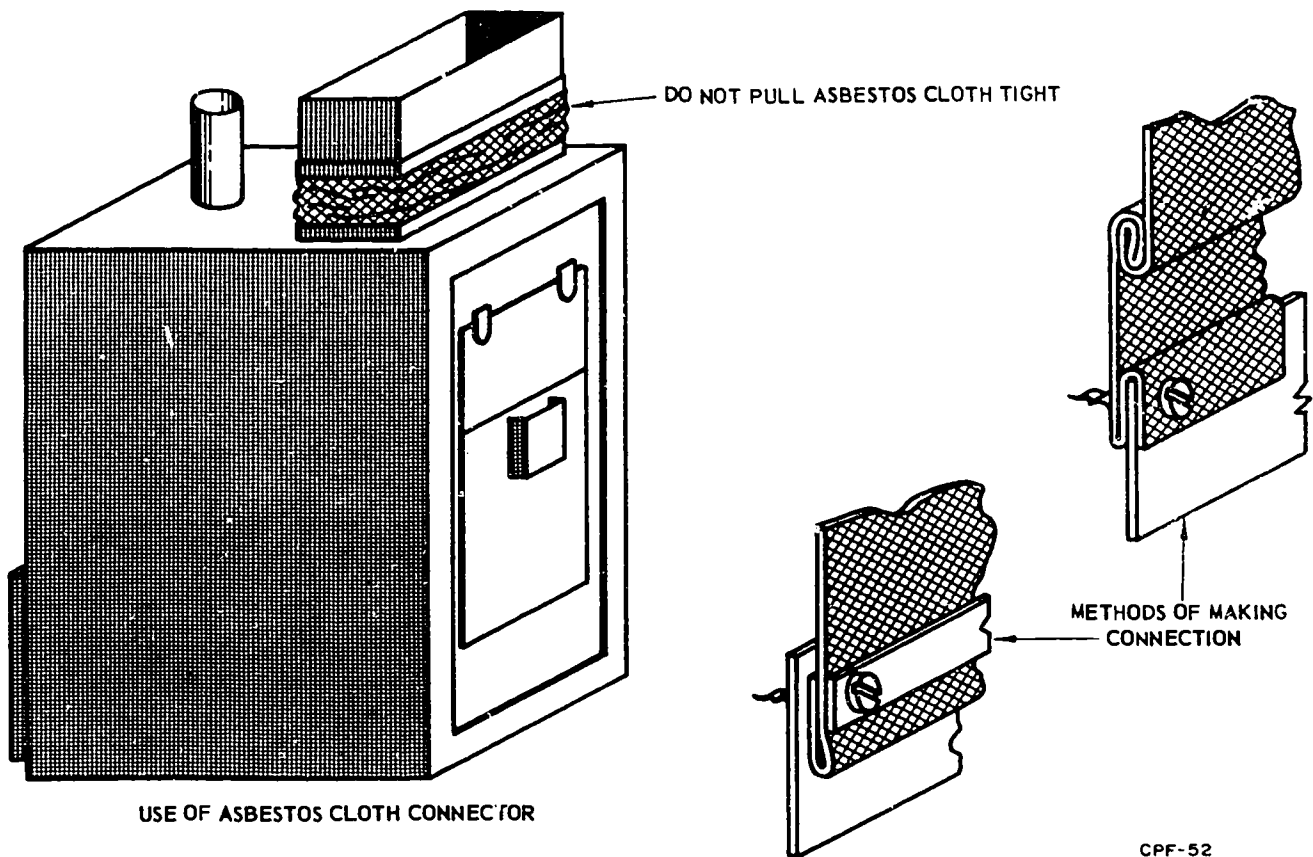

Figure 1-5. Detail view of a duct.
**Detail views.** Detail views often show small parts that cannot be seen clearly in the plan and elevation views. For example, the detail view shown in figure 1-5 illustrates the use of a cloth connector and methods of making the connection. This cloth connector is used to prevent furnace noise from being transmitted through the duct system. You will find detail views similar to these included with most plan and elevation drawings that include descriptions such as size, specifications, shape, materials, and methods of fabrication.
**Hidden lines.** Surfaces that are invisible (or hidden) are outlined with dashed lines. A hidden line actually is a series of short dashes of medium weight, about half as heavy as the lines used to indicate visible surfaces. When reading working drawings, it is important for you to remember that a series of short, uniform dashes always represent surfaces that are hidden. Examine figure 1-7 and locate the lines that indicate hidden surfaces. Also, examine the invisible (dashed) lines used in figure 1-5 to see if you understand what they represent.
**Dimension Lines.** If a working drawing is to be satisfactory, it must have not only the correct shape but also the size of the object and all of its features. The size is indicated by dimension lines that are recognized easily by the arrowheads at each end. Examine the use of dimension lines in figures 1-5 and 1-6. Notice that the dimension lines are not continuous because of a space near the center where the dimension is written.